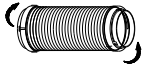

Fig. 16
1. Attach both adaptors A and B to exhaust hose. Extend each end of the hose by couple inches and turn the adaptors as shown in Fig.16. Do not over-tighten. Refer to previous pages for window kit installation.